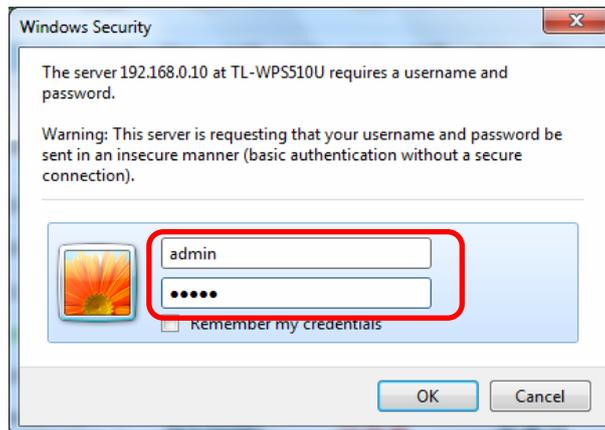

Figure 3-27
- After a moment, a login window will appear, similar to the Figure 3-27. Enter **admin** in lower case letters for the User Name and **admin** for the Password. Then click the **OK** button or press the **Enter** key.